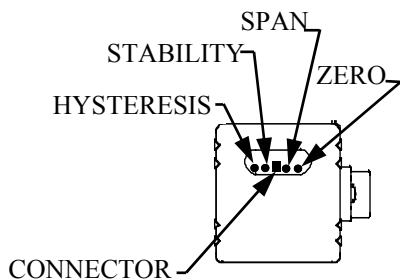

Figure 3
5. Underneath access cap, locate the two adjustment potentiometers SPAN adjust ZERO adjust. (See Figure 3 for location)
10. If at any time during the calibration procedure the servo oscillates or becomes unstable for more than one second, turn the HYSTERESIS potentiometer (see Figure 3 for location) counter-clockwise until the oscillation stops, then turn it one more complete turn (same direction).